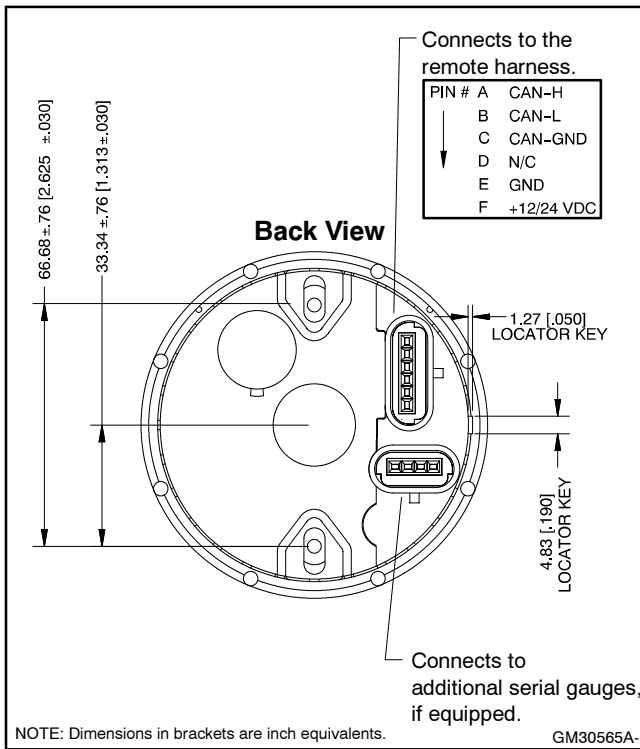
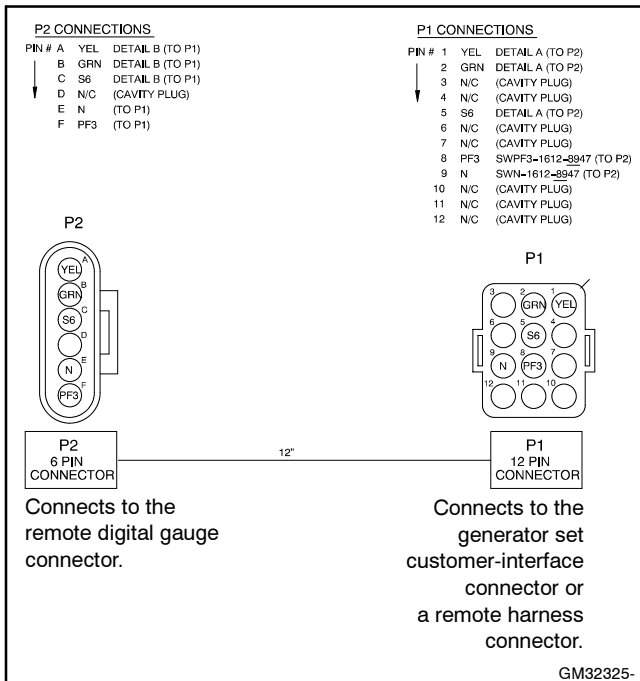

Figure 4 Remote Digital Gauge Connections
Figure 5 Remote Extension Harness GM32325
- 2.2 Connect the remote extension harness (6-pin connector) to the digital gauge (6-pin connector). Connect the 12-pin connector end of a remote extension harness to the generator set's customer-interface 12-pin connector. See Figure 4 and Figure 5.